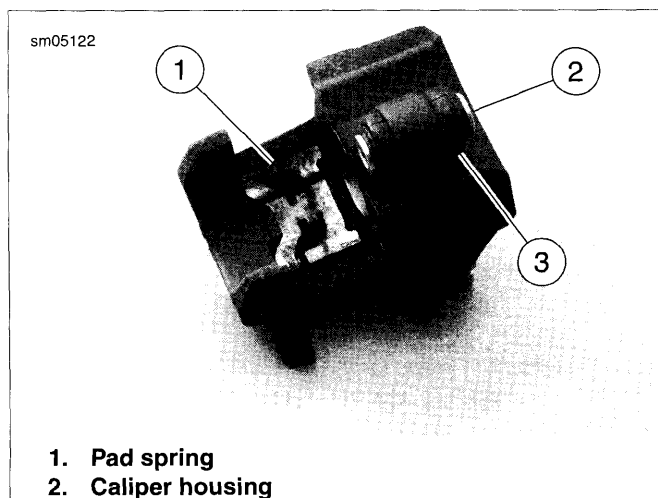

Figure 1-37. Rear Caliper Pad Spring
See Figure 1-37. When replacing rear brake pads, make sure pad spring does not become dislodged and fall out. If it does, reinstall it before installing new pads.
- Pad spring orientation is correct as shown in Figure 1-37.